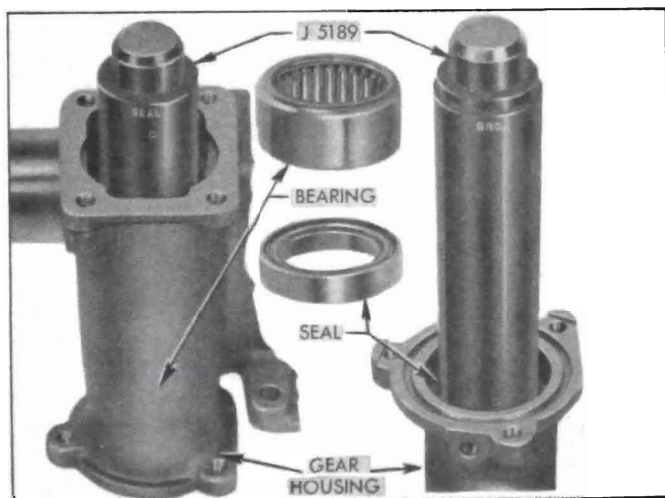

Figure 8-25—Installing Bearing and Seal in Gear Housing
7. Remove worm seal from gear housing with a punch and use Installer J 5189 to install a new seal *with spring side outward*. See figure 8-25.
8. If worm bearing in housing requires replacement, drive it out with a punch and use Installer J 5189 to install the new bearing. See figure 8-25.